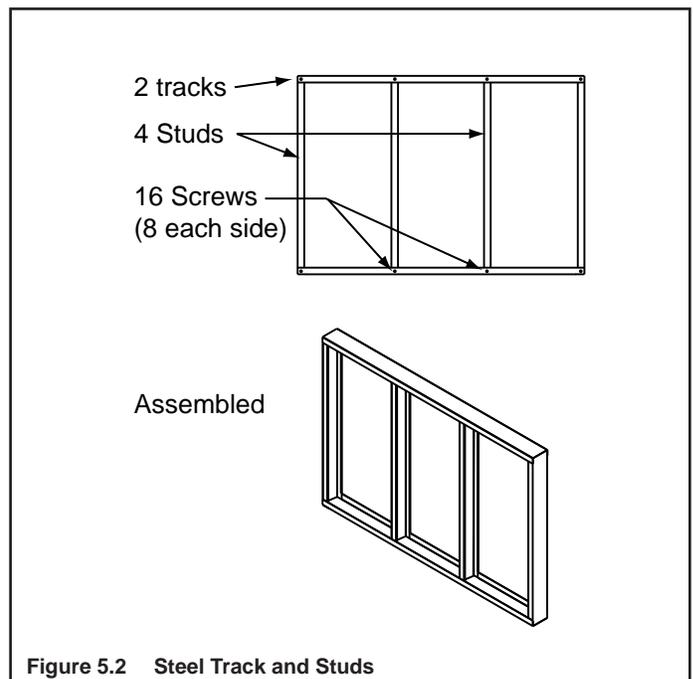

Figure 5.2 Steel Track and Studs
- Lay out steel track and studs per Figure 5.2.